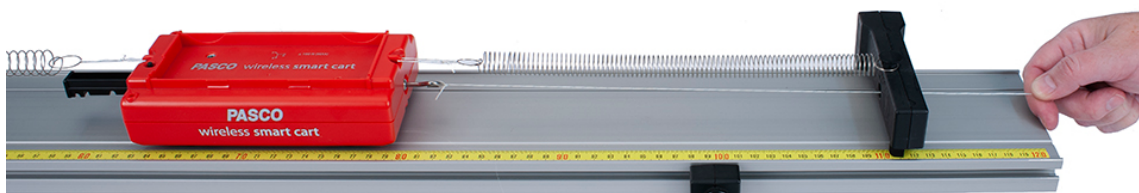

Figure 5: Pull on String to Determine the Spring Constant
5. Put the hook on the Smart Cart force sensor. Zero the force sensor in the software. Tie a meter-long string to the hook and pass the other end through the hole in the endstop to use as a guide so you hold the string horizontally (Fig.5).